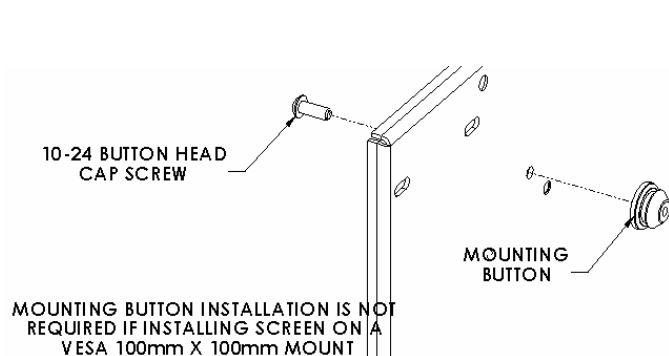
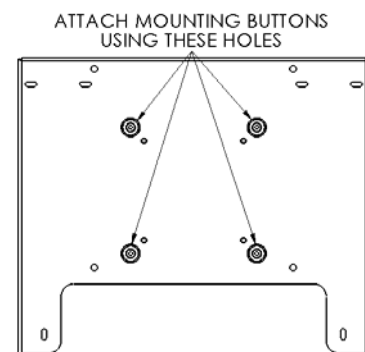

Figure 2
Figure 3
1. Using #10-24 screws secure mounting button to bracket, with chamfered hole of mounting button (larger surface) facing bracket (4 places) (see Figure 2 and Figure 3).